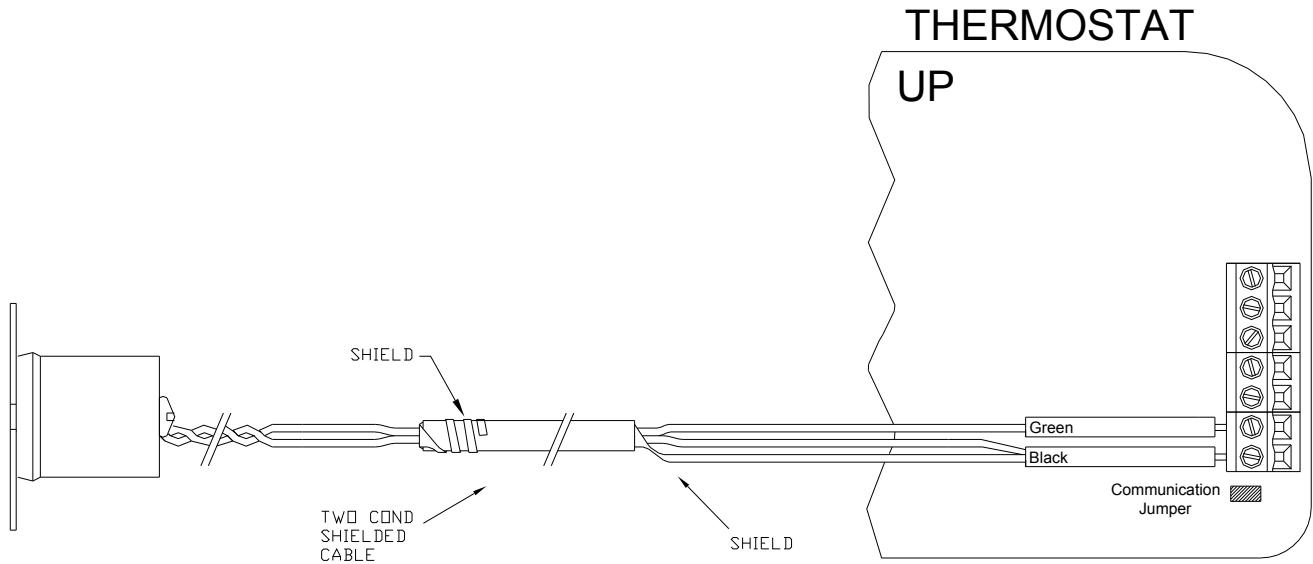

Figure 11 – Connections to a Remote Temperature Sensor
Make the connections to the Green and Black terminals under the section marked “Remote Temp Sensor” on the right terminal strip - **See Figure 11.**
1. When connecting a remote temperature sensor, the shield and one of the wires from the remote temperature sensor are tied together and get connected to the Black terminal – See Figure 11.